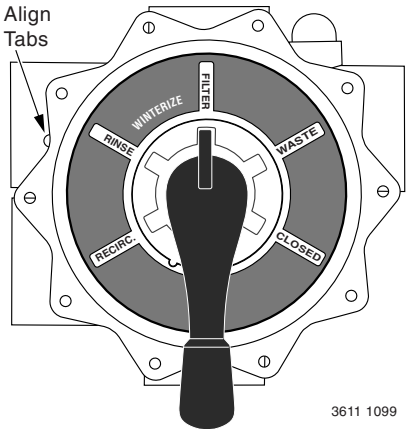

Figure 3 – Cover alignment
8. Remove fixture, align cover pin (See Figure 3), and reinstall cover and plug. Tighten all bolts securely.
4. Align cover pin (see Figure 3) and install new cover and plug. Press down on cover to allow bolts to engage nuts; tighten each bolt securely.
10. Make sure tab on valve cover aligns with pin on top of pump port (see Figure 3). Press down on cover or set handle to “WINTERIZE” to allow bolts to engage nuts. Tighten each bolt securely.
8. Align the tab on the cover assembly with the pin on the valve body (See Figure 3) and insert the cover assembly into the body, fastening it with the bolts and nuts removed in Step 3. Tighten all bolts securely.